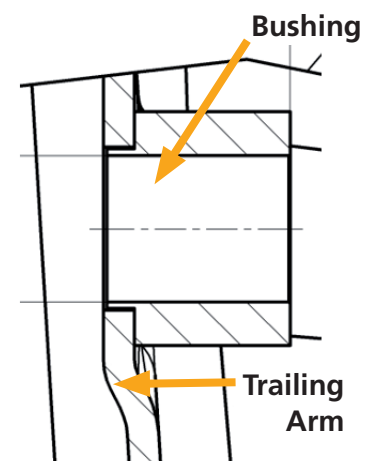

Figure 2
4. Place both bushings into the trailing arm (refer to Figure 2). It may be necessary to secure them with a magnet to prevent them from falling out.